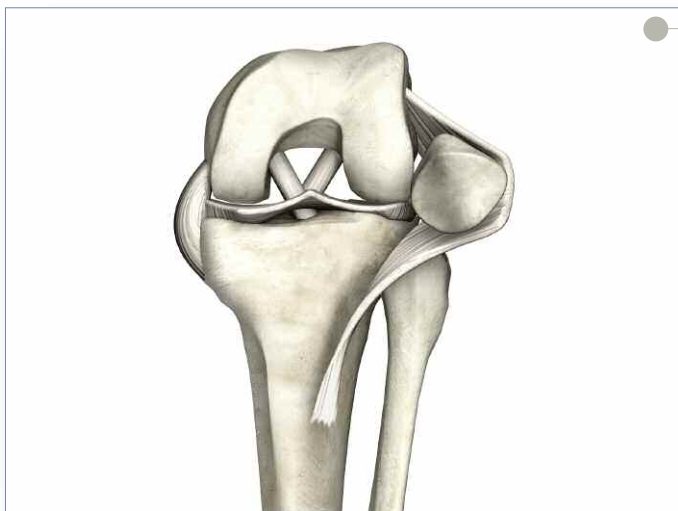

Figure 2
- ▶ Enter the capsule through a medial parapatellar approach approximately 1cm from the medial border of the patella. Incise the quadriceps mechanism longitudinally to allow adequate patellar eversion and sufficient knee flexion (**Figure 2**).